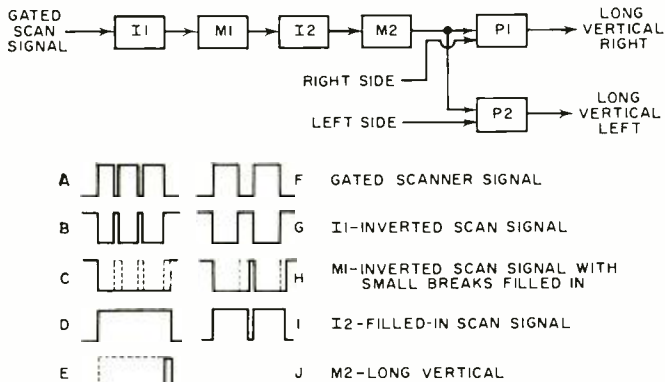

Fig. 5. Subroutine for detecting long vertical lines in spite of small imperfections. Timing circuits identify horizontal position.
steps. The block diagram in Fig. 5, for example, illustrates the subroutine for detecting long vertical lines. Since the line to be analyzed may be imperfect with small missing portions, this circuit is designed to ignore small breaks. At the same time, it must detect longer breaks, such as the clear break in the vertical sides of a well-formed "8."
The waveforms A through E in Fig. 5 illustrate the detection process for a long vertical line with minor breaks. The signal to be analyzed (A) is presented to the detector circuit and inverted (B) by  $I1$  so that the short missing portions show up as positive pulses. If these missing pulses are shorter than the timing interval of measuring circuit  $M1$ , they are eliminated, and do not appear at the  $M1$  output (C). The signal is inverted again (D) by  $I2$  and presented to the second measuring circuit ( $M2$ ), whose interval is set to detect a long line. This circuit produces an output only if the signal is of greater duration than its measuring interval. Since a long signal is present,  $M2$  produces an output pulse, which indicates the presence of a long vertical line. Two primer circuits,  $P1$  and  $P2$ , determine whether the line is on the right or left of the character being detected. Timing circuits turn one of them on when the first edge of the character is detected, the other at the other end of the letter. Since the output of  $M2$  is fed to both in parallel, an output from one indicates the right side; the other, the left.
When a number that does not contain a long vertical—such as an “8”—is presented to the circuit, the timing circuits discriminate as shown in waveforms F through J in Fig. 5. Since the peak in the inverted signal (G) is of longer duration than the timing interval of M1, it appears at the output of M1 (H) and is inverted (I). Neither of the two long positive pulses is as long as the timing interval of M2, so this timing circuit produces no output. Subroutines of about the same complexity are used to determine the presence or absence of other vertical and horizontal strokes.